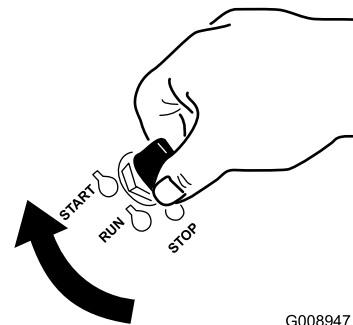

Figure 19
- 6. Turn the ignition key to the Start position (Figure 19).